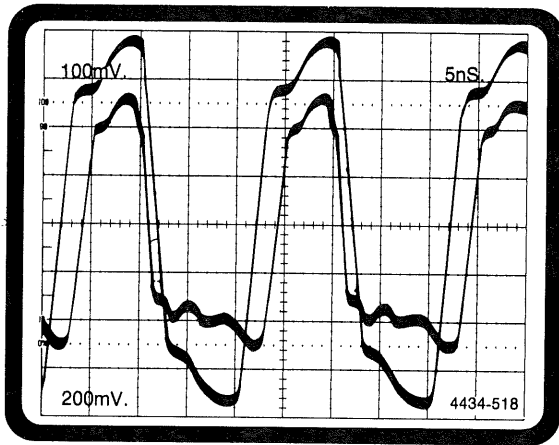

Figure 2-30. 318A Glitch data acquisition test waveform #1.
- a. Set the Pulse Generator as per Table 2-10 and Figure 2-30.